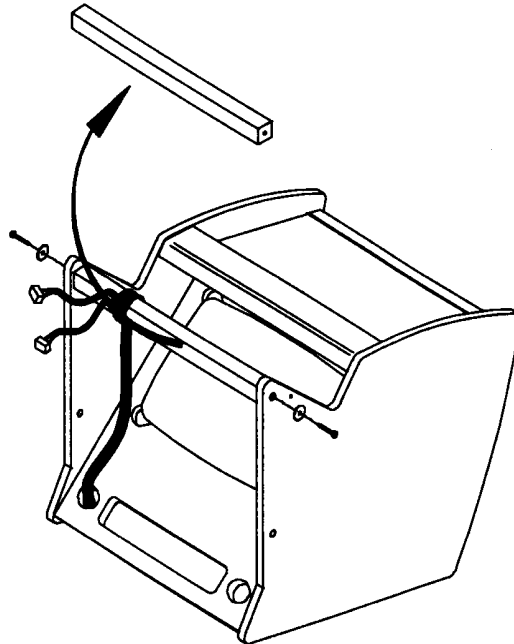

FIGURE 7
6. Cut the tie-wrap that holds the 9-pin serial cable, the 25-pin parallel cable and the power/speaker cable to the wood shipping brace. The shipping brace is held in place by two screws located on the left and right sides of the backbox. Remove the screws and shipping brace from the backbox and discard. See Figure 7, below.